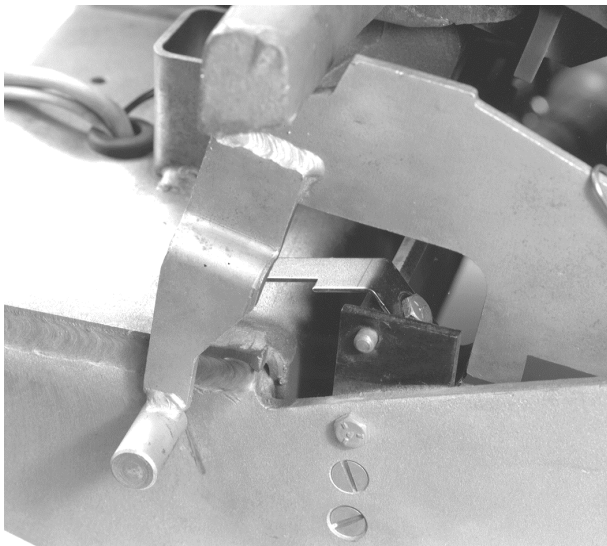

Figure 5. Trip paddle installed on the trip bar.
1. Remove the 1/4-20 bolt that fastens the draw-out interlock lever to the common trip bar, as shown in Figure 5.
2. Install the new trip paddle provided over the existing interlock lever and secure it with the existing hardware, as shown in Figure 5.